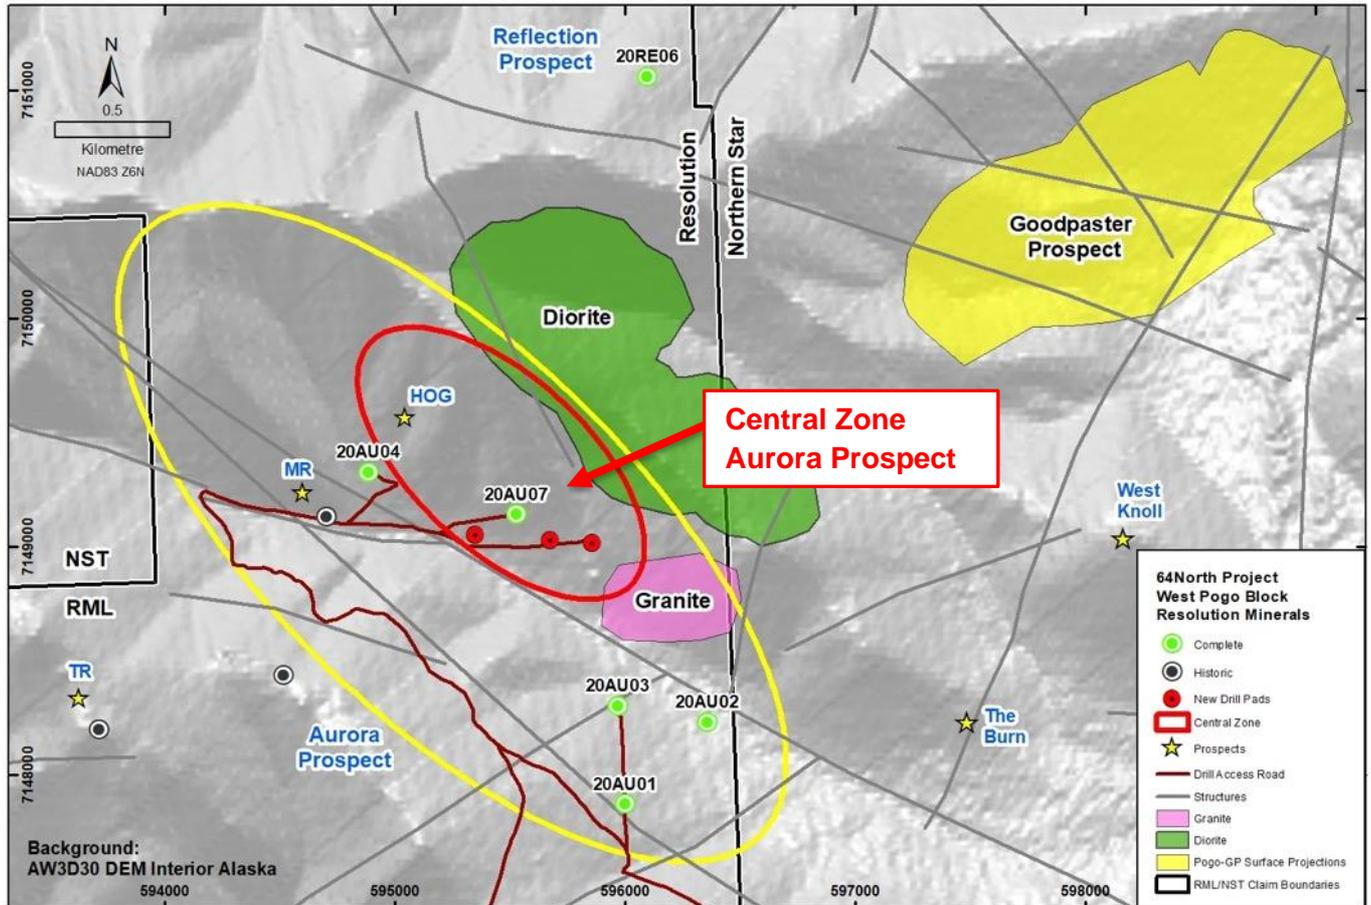

Figure 2 Aurora Prospect with red ellipse of “Central Zone” 1500m x 750m for follow up drilling, West Pogo Block, 64North Project
- Drilling results from the three (3) recently completed drill holes on the West Pogo Block: Echo, Reflection and Aurora Prospects were fast tracked for selected high priority zones of each hole.
- **Two further holes are planned at the highly prospective "Central Zone" of the Aurora Prospect to test the grade variability and extent of the 7m thick quartz vein intersected at 20AU07 (Figure 2).**
We understand that in a Pogo-style system there can be large variations in grade and vein thickness within short distances and it is important to drill more holes into this immediate area to test for: grade variation, lateral extents of the vein and possible stacked sets nearby. **The Company firmly believes further drilling in the central zone of the Aurora Prospect is warranted.** Drill pads have been prepared as indicated with red dots in Figure 2 to give the geology team optionality as structural data is reviewed from the current drill hole. The central zone is 1500m by 750m in size and has the scale potential to host a significant resource.